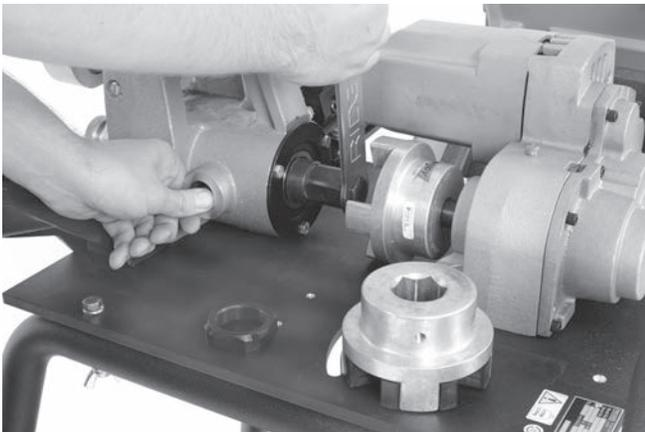

Figure 27 – Removing Draw Bolt
6. Use the 15/16" hex in the box wrench to loosen the draw bolt (Figure 27).